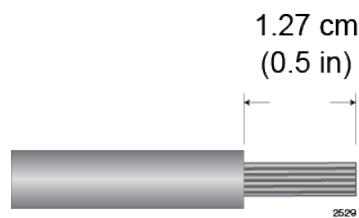

Figure 143. Stripping the Power Wires
1. Prepare adequate lengths of two stranded 8 AWG power wires by stripping them as shown in Figure 143.